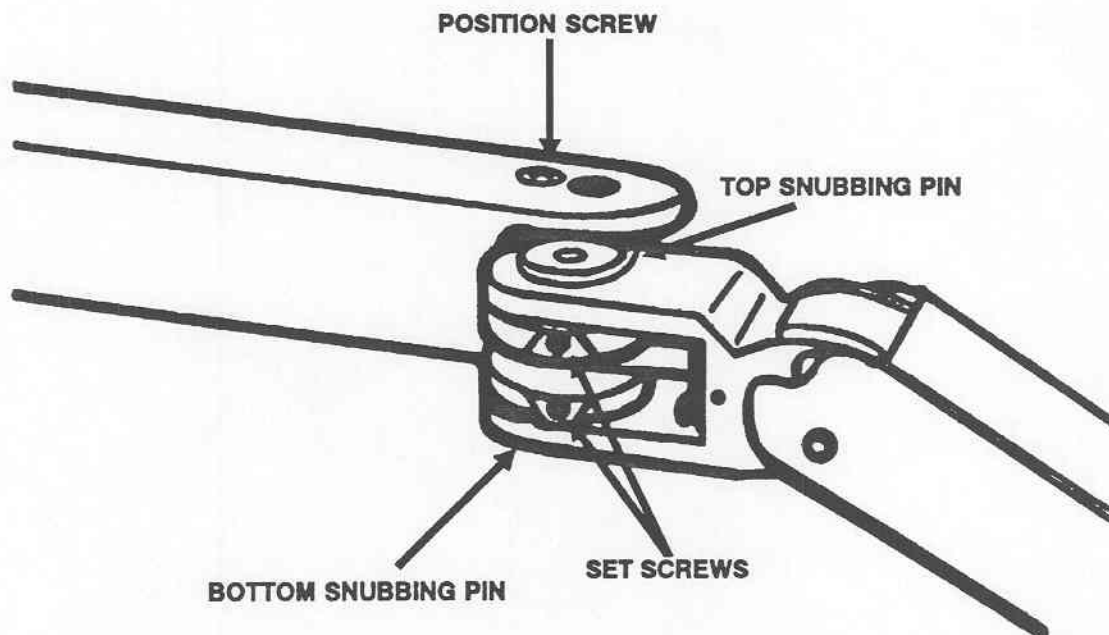

Figure 3-12. Position screw removal.
- (5) Remove the position screw and allow the joint to straighten (fig 3-12).